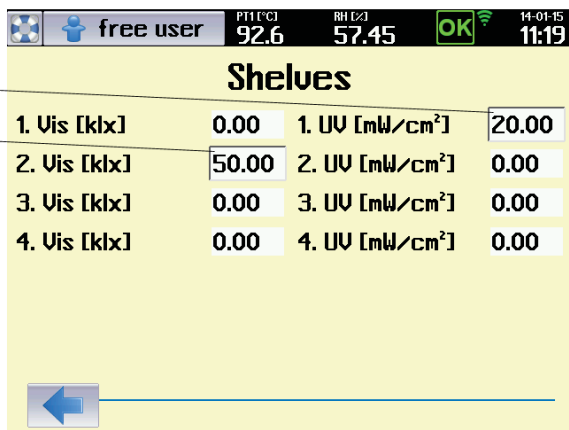

Fig. 46
3. The measured value is entered to the menu according to Fig. 46 and it is saved in the device memory.